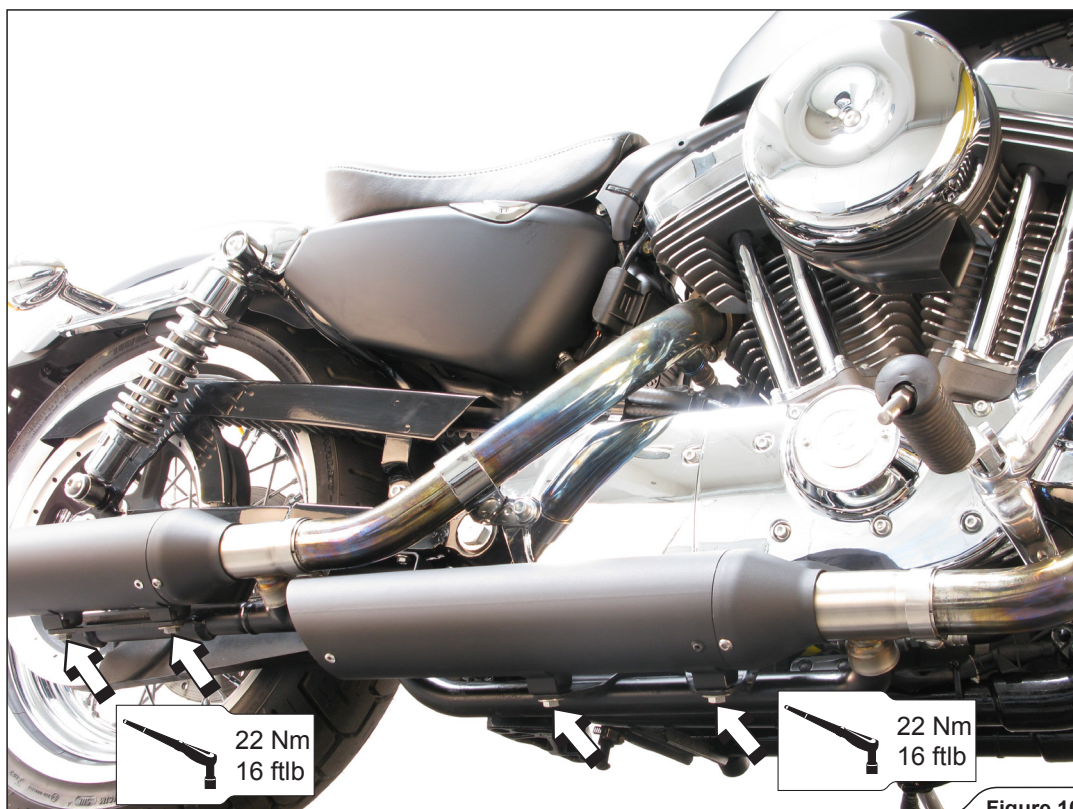

Figure 10
4. Align the mufflers and tighten the mufflers' bracket bolts to a specified torques (Figure 10).